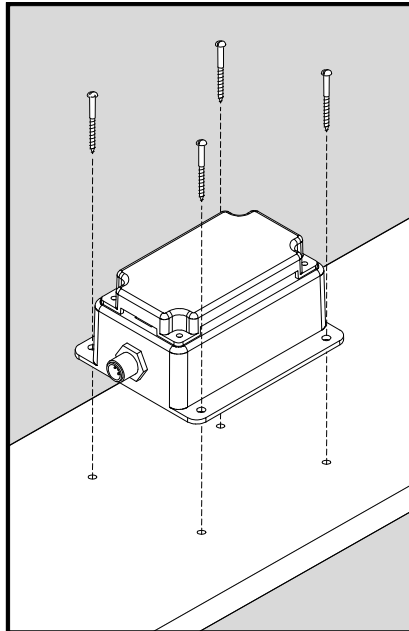

Figure 1 – Mounting the NBE100
Attach the NBE100 securely to the vessel using the included stainless steel mounting screws or other fasteners as shown in Figure 1 below. Do not use threadlocking compounds containing methacrylate ester, such as Loctite Red (271), as they will cause stress cracking of the plastic enclosure.